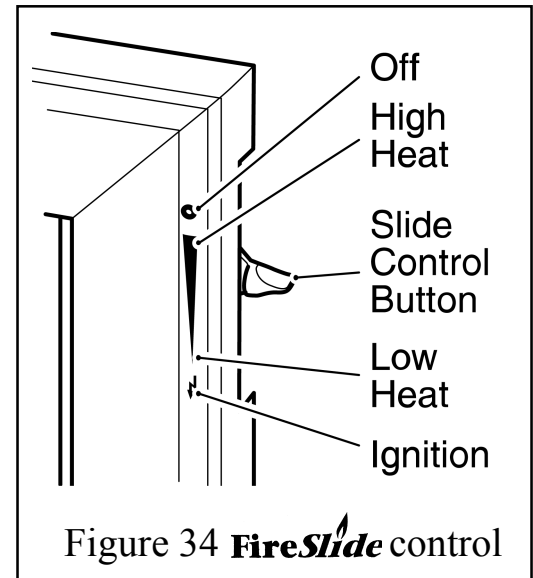

Figure 34 **FireSlide** control
The control position markings on the front surround are shown in figure 34.
5. Gradually slide the button up to increase the burner setting. The burner should be at its maximum setting at the high heat position shown in figure 34. You should feel a check to the button movement at this position.